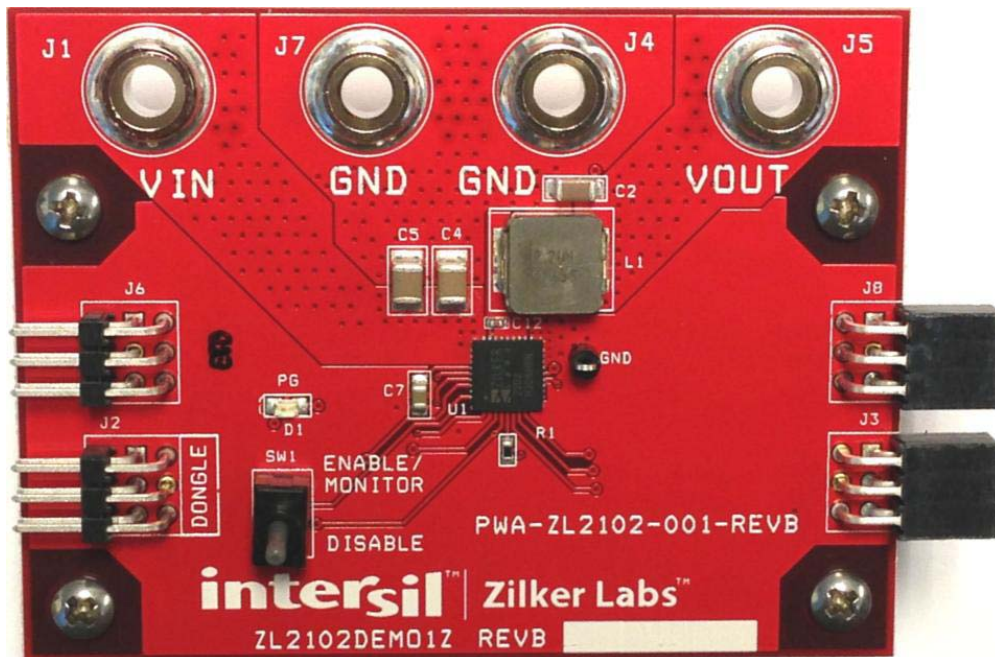
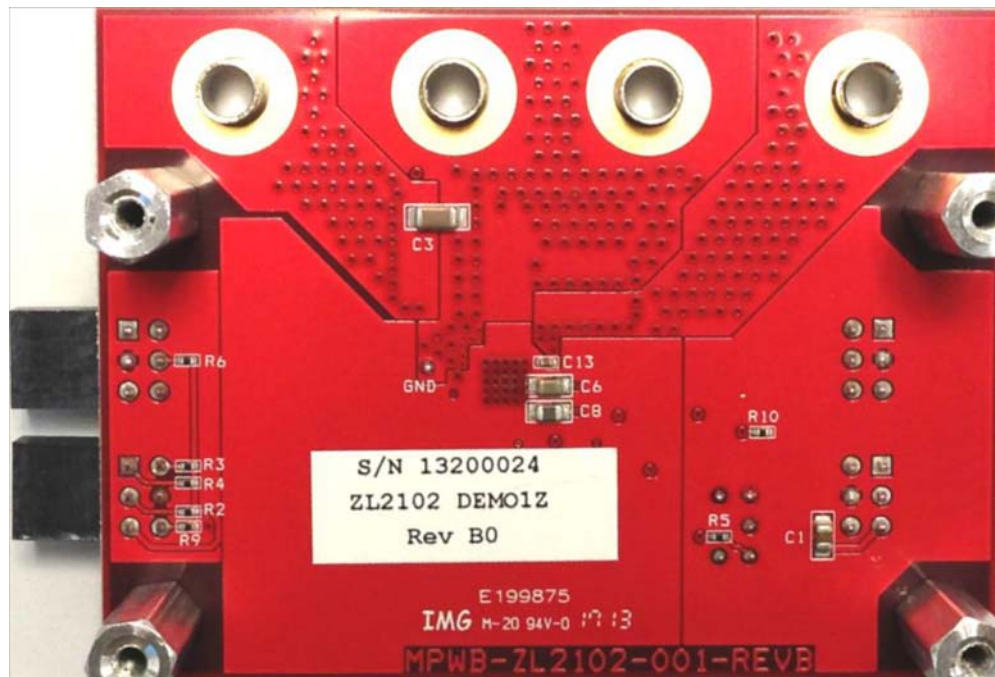

FIGURE 2. TOP SIDE
FIGURE 3. BOTTOM SIDE
The ZL2102DEMO1Z Demo Board provides a simple platform to demonstrate the features of the ZL2102. The ZL2102DEMO1Z has a functionally optimized ZL2102 circuit layout that allows efficient operation up to the maximum output current. Power and load connections are provided through plug-in sockets. Standalone operation is achieved using a combination of pin-strap settings and stored settings. The pin-strap setting details are described in the ZL2102 data sheet. The stored settings are listed in “Default Configuration Settings” on page 11. The ZL2102DEMO1Z Demonstration Board is shown in Figure 2 and Figure 3. The hardware enable function is controlled by a toggle switch. The power-good (PG) LED indicates that V_{OUT} is regulating. The right angle headers at opposite ends of the board are for connecting a USB to SMBus control board or for daisy chaining of multiple Intersil evaluation boards.